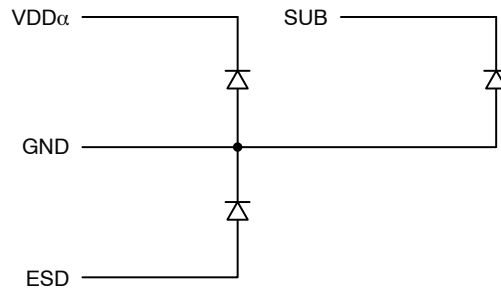

Figure 14. External Diode Protection
- The image sensor can be protected from an accidental improper ESD voltage by current limiting the SUB current to less than 10 mA. SUB and VDD must always be greater than GND. ESD must always be less than GND. Placing diodes between SUB, VDD, ESD and ground will protect the sensor from accidental overshoots of SUB, VDD and ESD during power on and power off. See Figure 14.